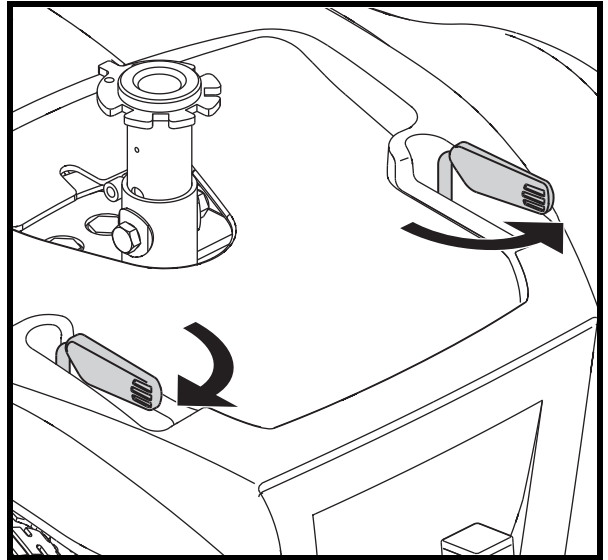

Figure 9. Freewheel Mode (Drive Disengaged)
3. Pull both levers outward away from the seat post to disengage the drive motors (freewheel mode). See figure 9.